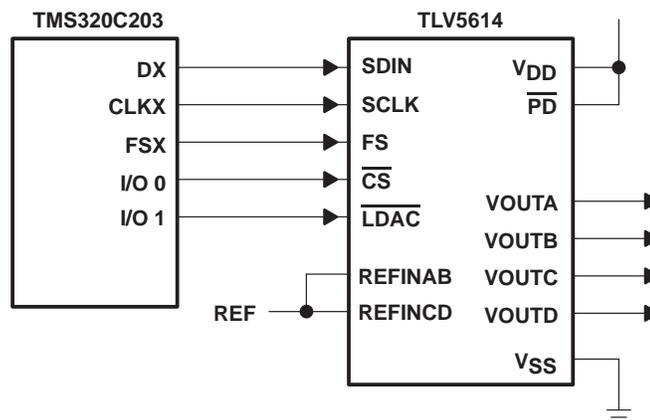

Figure 18. TLV5614 Interfaced With TMS320C203
Figure 18 shows an example of how to connect the TLV5614 to a TMS320C203 DSP. The serial port is configured in burst mode, with FSX generated by the TMS320C203 to provide the frame synchronization (FS) input to the TLV5614. Data is transmitted on the DX line, with the serial clock input on the CLKX line. The general-purpose input/output port bits, IO0 and IO1, are used to generate the chip select ($\overline{\text{CS}}$) and DAC latch update ($\overline{\text{LDAC}}$) inputs to the TLV5614. The active-low power down ($\overline{\text{PD}}$) is pulled high all the time to ensure the DACs are enabled.